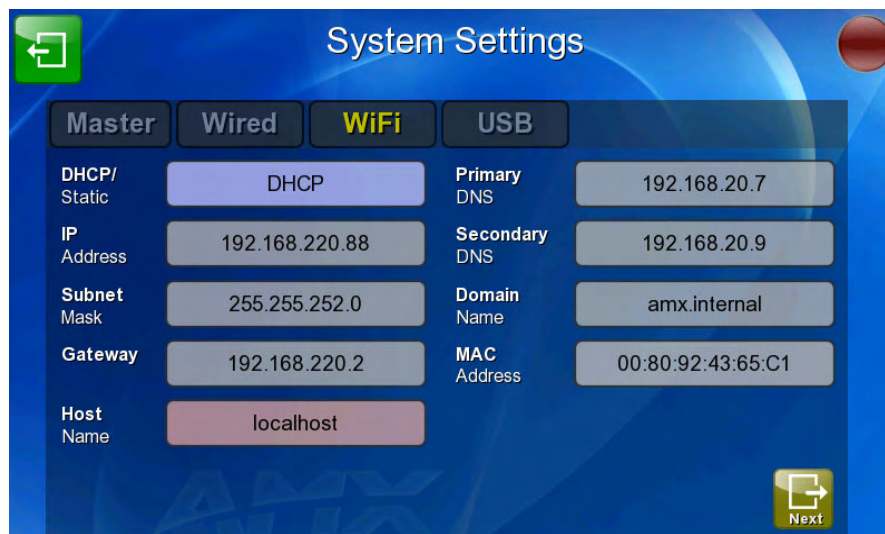

FIG. 20 System Settings page - WiFi tab
2. Select the *WiFi* tab (FIG. 20).
1. From the *Protected Setup* page, press the **Network** button to open the *System Settings* page. Wireless communication is set within the *WiFi* tab of this page (FIG. 20).